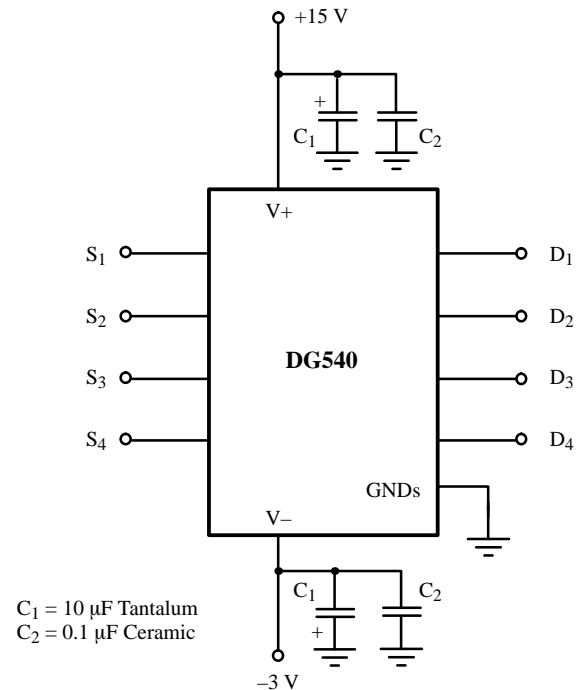

Figure 7. Supply Decoupling
1. Decoupling capacitors should be incorporated on all power supply pins (V+, V-). (See Figure 7.)